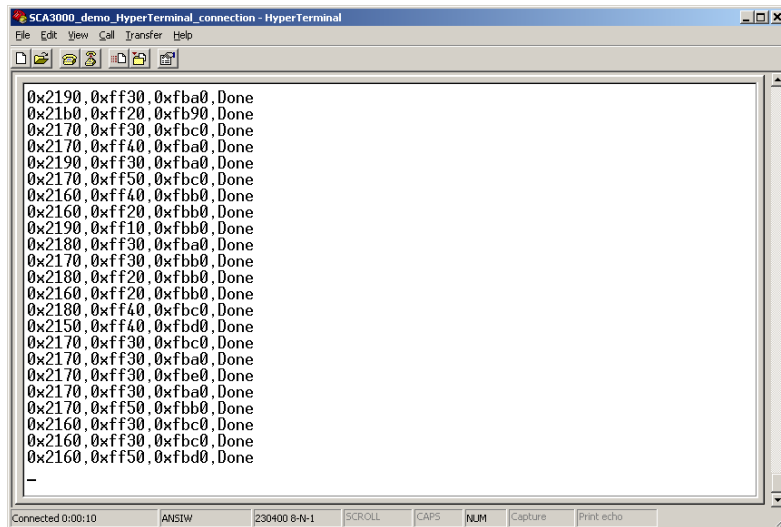

Figure 13. SCA3000 demo output during data logging.
7. The text file is a macro that runs in an endless loop. The macro sends 3-axis acceleration data in hex format to HyperTerminal (see Figure 13). Example of data format: